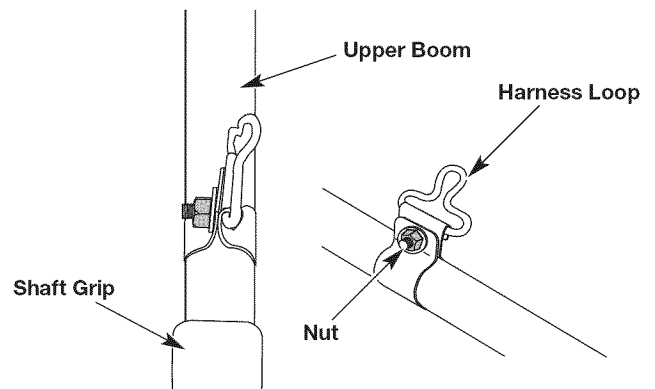

Fig. 4
3. Arrange the clip so that it is close to the shaft grip and away from the J-handle (Fig. 4).